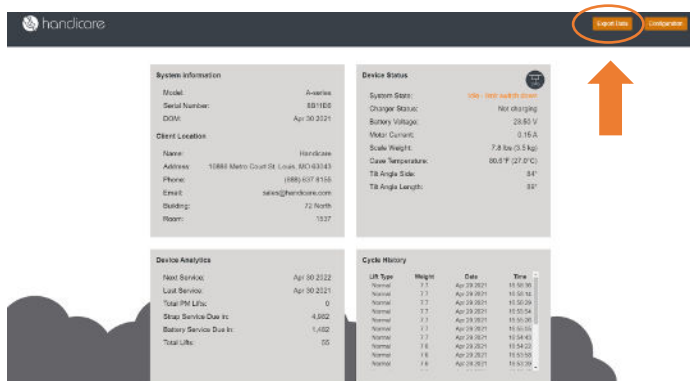

Figure 18: Export Button
12. To Export data from the lift Select **Export** as show in Figure 18: Export Button